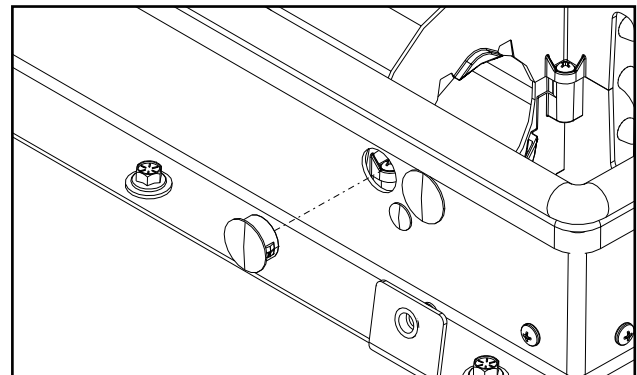

Fig. 3.4 (Dome Plug Removal)
- 3.4 Remove one of the two large dome plugs from the rear of the air conditioner. Figure 3.4